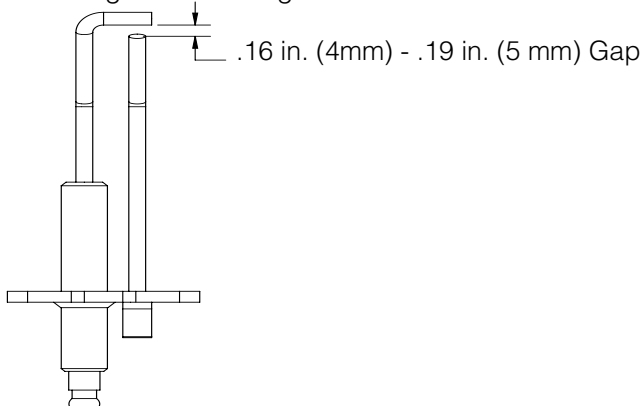

Figure 17-2: Ignitor/Flame Sensor Spark Gap
- Verify ignitor/flame sensor spark gap is within range shown in Figure 17-2.
Dirty or damaged ignitor/flame sensor.	Check ignitor/flame sensor gap and distance to burner. See Figure 17-2 and Table 17-4 for distance specification Replace ignitor/flame sensor if necessary.